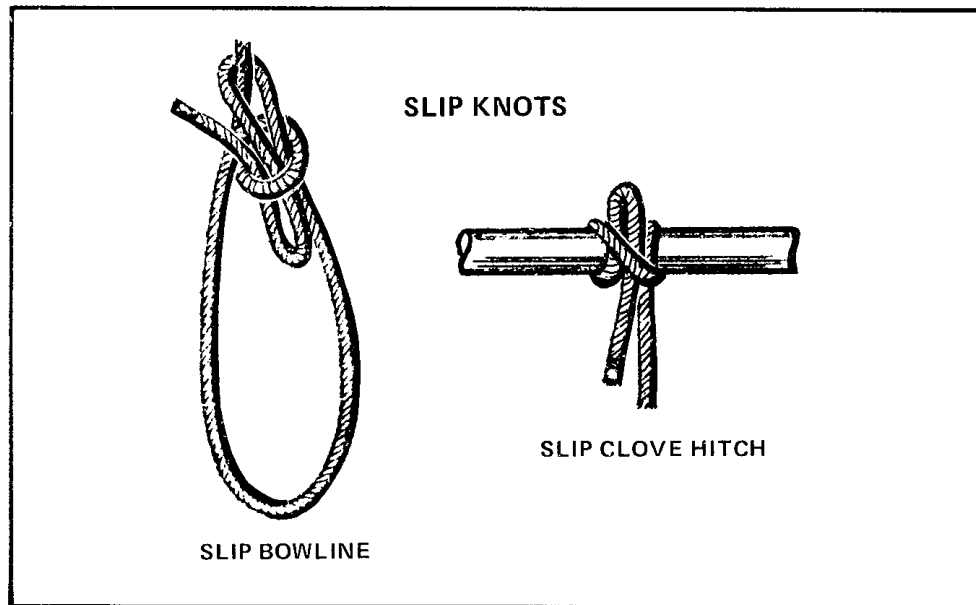

Figure 4-58 Slip Knots
7. **Slip Knots** — (See Figure 4-58.) The bowline and the clove hitch can be made into knots which can be released quickly by using a bight instead of an end in the last phase of making them. Such slip knots will hold a steady strain fairly well, but cannot be trusted to stand a jerking pull.